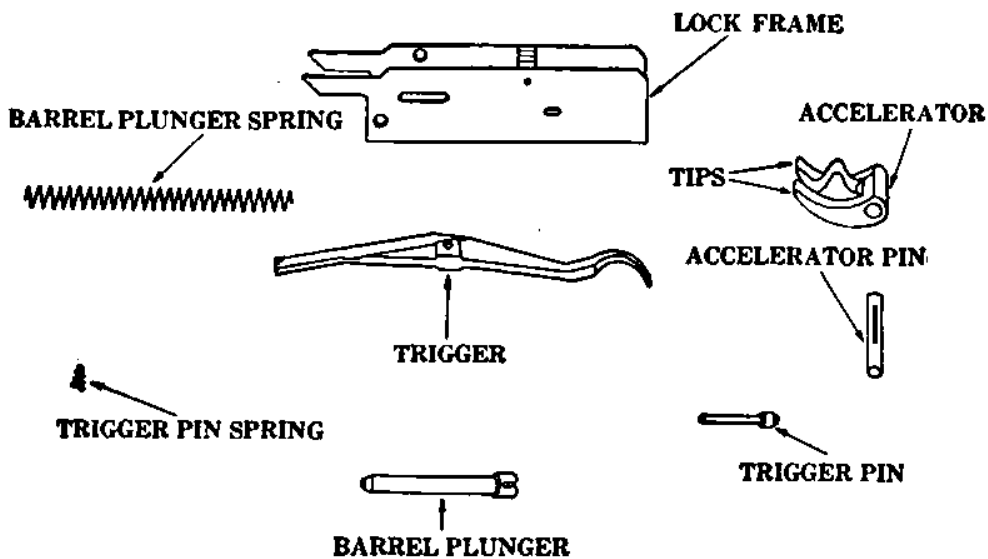

FIGURE 6.—Lock frame group.
■ 14. DETAILED DISASSEMBLING OF LOCK FRAME (fig. 6).—*a.* Grasp head of trigger pin between the thumb and first finger of the right hand and remove it to the right. Lift out trigger. If pin is too tight to permit its removal in this manner,